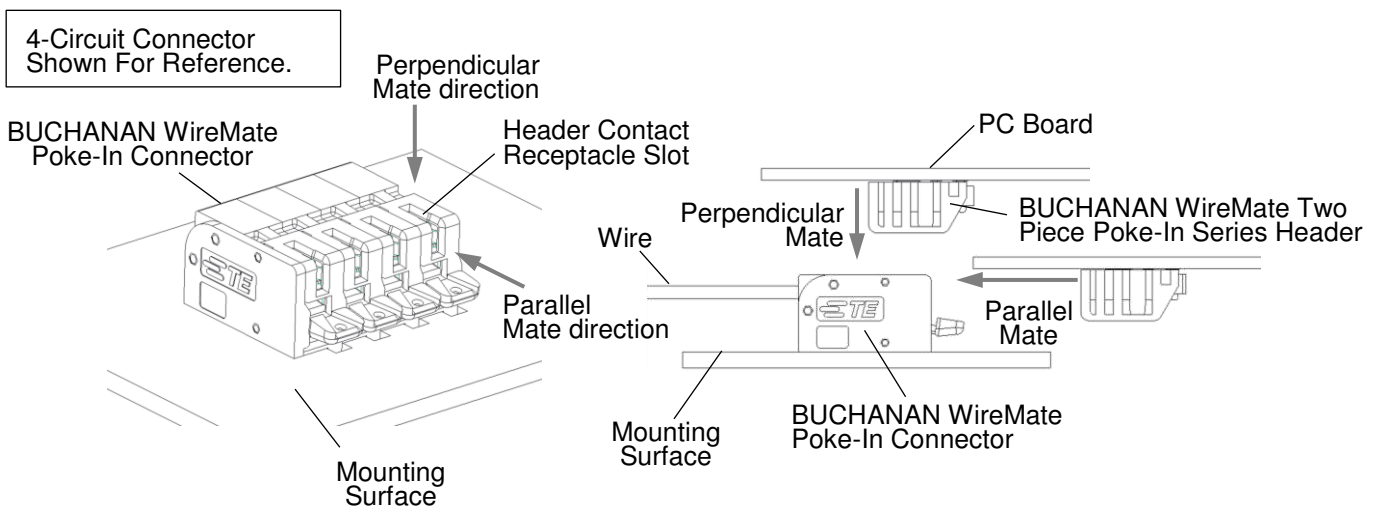

FIGURE 9
The BUCHANAN WireMate Two Piece Poke-In Series Header mates to a corresponding BUCHANAN WireMate Two Piece Poke-In Series Connector by inserting the header blade contacts into receptacles in the connector. The connector receptacles are designed to allow the header mating direction to be parallel, or, perpendicular to the connector mounting surface (ref. Figure 9), as well as “rotational” mating in the parallel orientation (ref. Figure 11).
- A. The pc board movement is parallel to the connector mounting surface as in Figure 9.